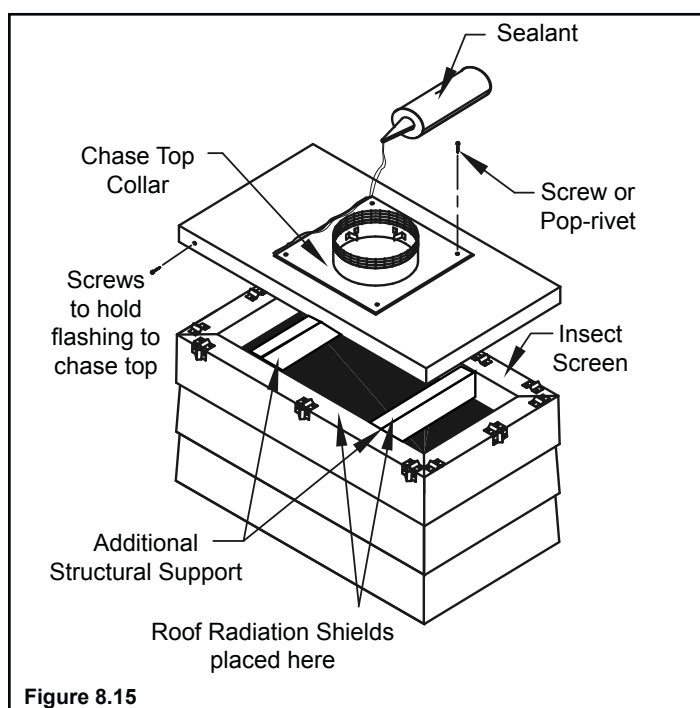

Figure 8.15
- Additional non-combustible structural supports can be field-fabricated to help support the Chase Top Flashing if needed, provided the air ventilation requirements are maintained. See Figure 8.15.
- Secure the Chase Top Collar section to the field-fabricated flashing with sheet metal screws or rivets (Figure 8.15).
- Seal Chase Top Collar section to flashing with non-hardening waterproof sealant to ensure a weather tight connection. See Figure 8.15.